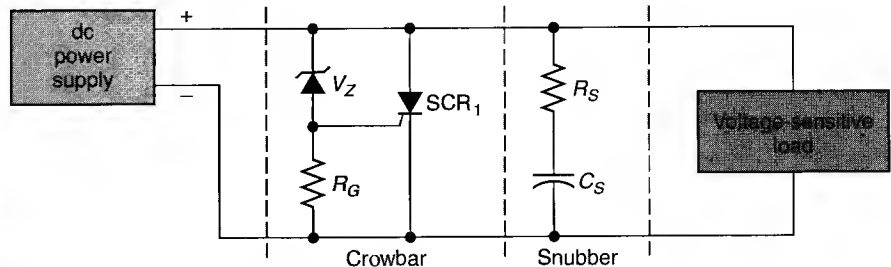

FIGURE 20.14 The SCR crowbar.
voltages. The crowbar circuit shown in Figure 20.14 consists of a zener diode, a gate resistor (R_G), and an SCR. The circuit also contains a snubber to prevent false triggering.
17. In Figure 20.14, why not use a fuse in series with the load rather than the more expensive crowbar circuit?